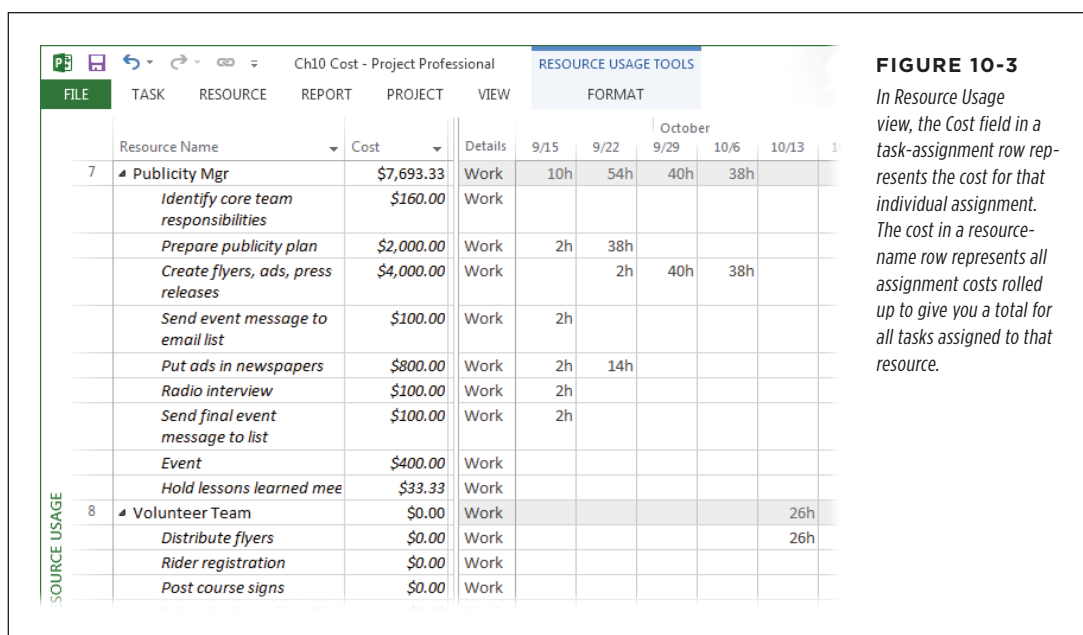

FIGURE 10-3
- **Total cost for a resource.** Display Resource Sheet view (View→Resource Sheet), and then insert the Cost column somewhere in the table (right-click a column heading in the table and choose Insert Column). The Cost value for a given resource is the total cost for the resource for all its assigned tasks, based on the standard rate, overtime rate, cost/use, or other specified resource cost. This technique is perfect when you want to see how much you're spending for a specific work resource, such as a contractor, or a specific cost resource, such as travel or training. You can also see the cost for a resource in Resource Usage view in the resource's summary row, as shown in Figure 10-3.
- **Cost for assignments.** If you want to see the cost of the assignments associated with a task or a resource, display Task Usage view or Resource Usage view, respectively. As usual, you can either apply the Cost table or insert the Cost column in the Usage table (or whatever table you want to use), as shown in Figure 10-3.